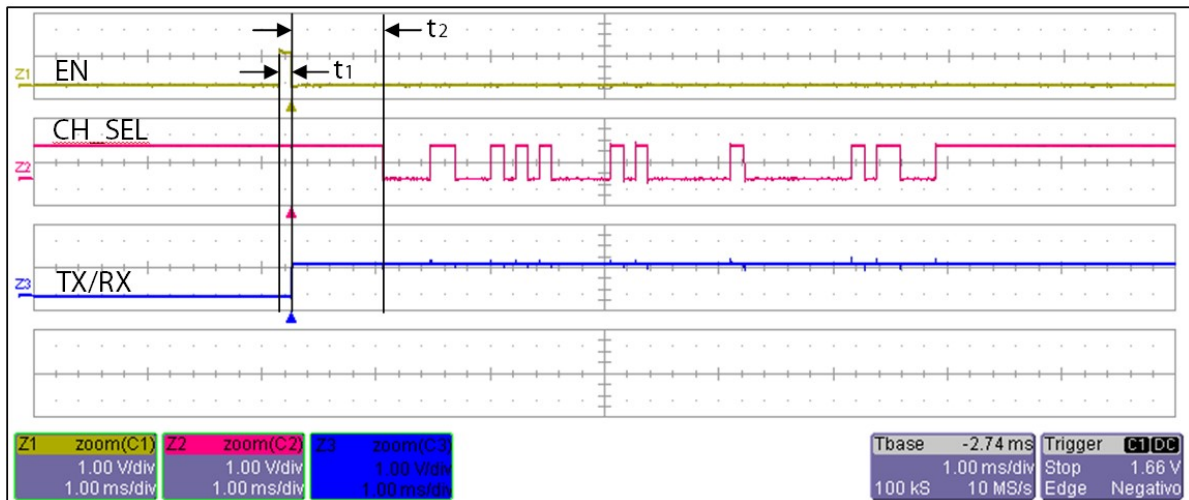

Figure 1: timings. $80\mu\text{s} < t1 < 120\mu\text{s}$; $t2 > 4\text{ms}$
- generate a high pulse t_1 with a duration within **80 μ s and 120 μ s** on **EN line** (see Figure 1).
The time t_2 between the end of the pulse on EN line and start of data transmission on CH_SEL must be at least **4 ms** (see Figure 1).